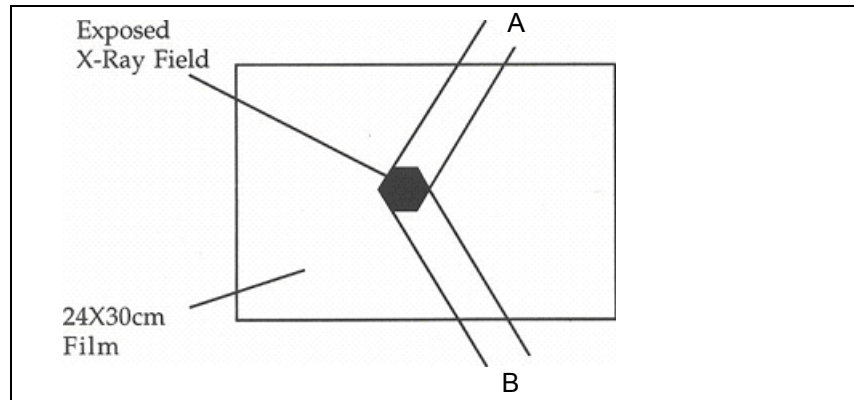

Fig. 18 Measuring the Smallest Field Size
- Measure the image on the film, as shown in Fig. 18, and write the results in the box below.